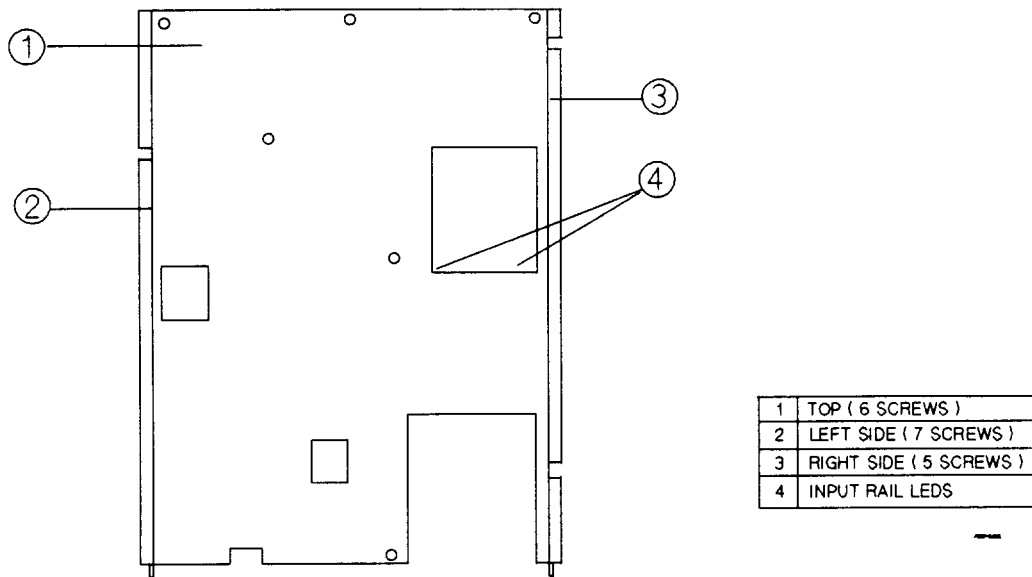

Figure C-4. Removing the Series 668xA/669xA Inner Cover
5. Observe the input rail LEDs under the inner cover (see Figure C-4). **If the LEDs are on, there is still hazardous voltage inside the supply.** Wait until they both go out (this may take several minutes) before proceeding. (If one LED remains on while the other goes out, the power supply probably has a defect that requires service.)
6. Remove the screws securing the inner cover (see Figure C-4).